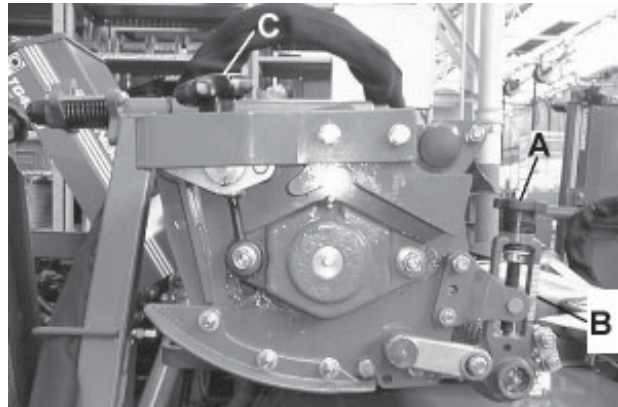

Fig.4
**HEIGHT OF CUT (FIG.4 & 5)**
1. Turn the adjuster handwheel or nut (A Fig.4) situated on handwheel clockwise (+) to increase the height of cut, or anticlockwise (-) to decrease the height of cut.